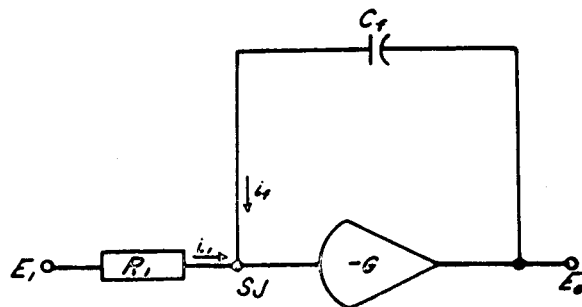
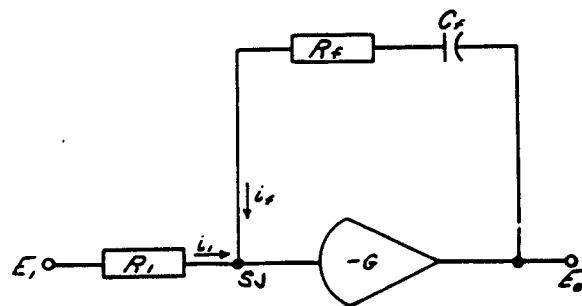

FIGURE 3 - INTEGRATOR
FIGURE 4 - PROPORTIONAL PLUS INTEGRAL
- C. The analysis given above in terms of complex impedance indicates the versatility of operational amplifiers and precludes describing every possible configuration. However, to introduce the operator p^* , the transfer function of the configurations given in Figure 3 and Figure 4 will be derived.
In Figure 4, the current is the same through both elements of the feedback loop, therefore,